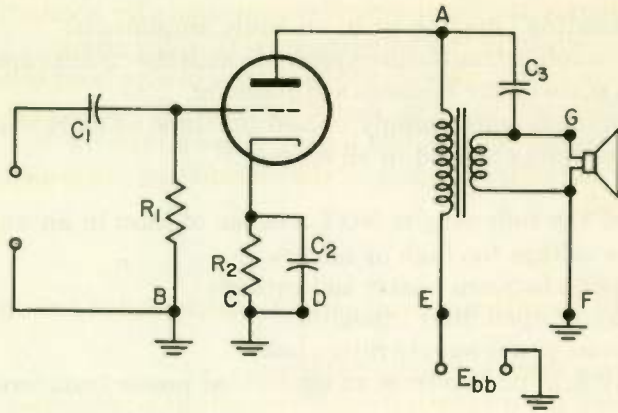

Fig. 34
12. Figure 34 shows a triode power amplifier stage inductively coupled to a loudspeaker load. This circuit needs correction as follows: